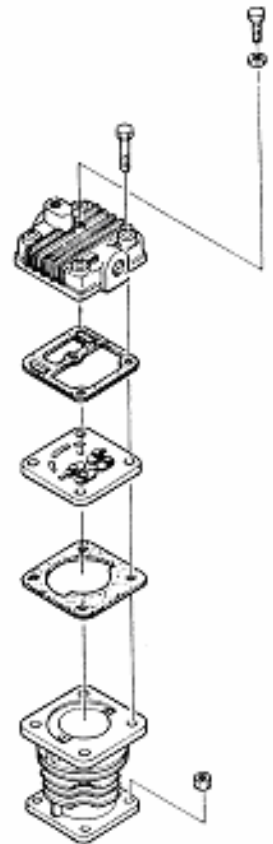

Fig. 6-5 Air Valve Disassembly
6.4 Replacing the Air Valve Assembly (See Figure 6-5)